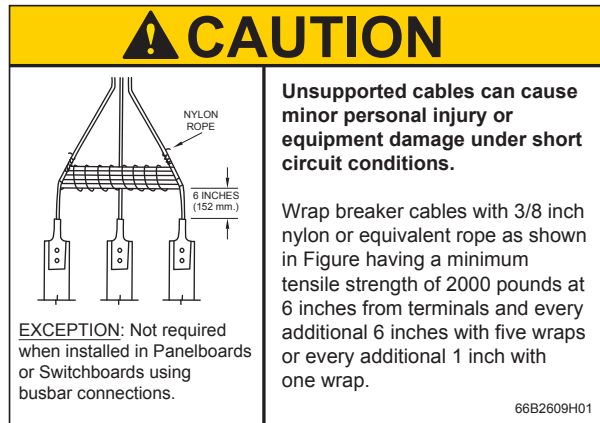

Figure 16. Rope lacing instructions
4. When making the cable terminal connections, properly torque the cable retaining screws and periodically check all mounting hardware for proper torque loading. Refer to **Figure 16** for rope lacing instructions.